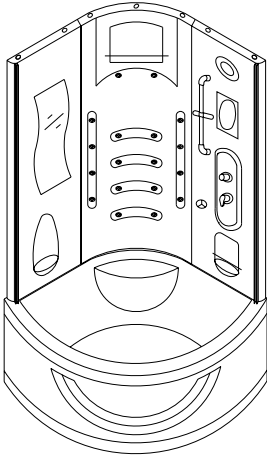
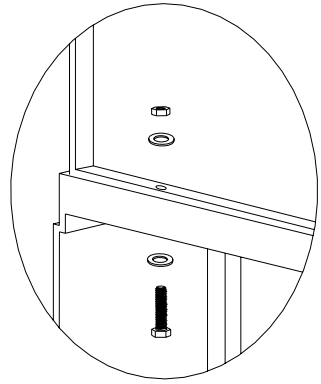

Fig. 8
Fig. 9
5. Move basin out, put the wall assembly onto basin, and then fix them with M6x30 bolts (Fig.8, Fig. 9).